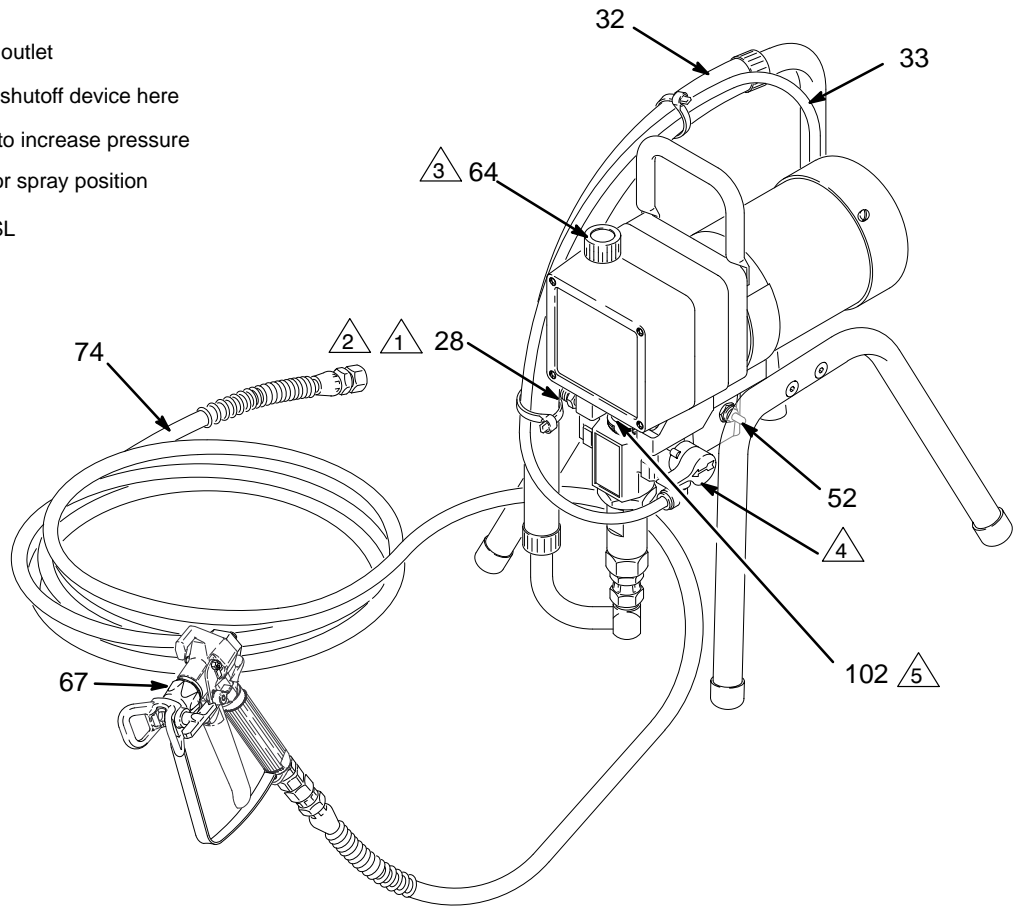

**Fig. 8**
The tip guard alerts you to the risk and helps prevent placing any part of the body close to the spray tip. The tip guard also adjusts the vertical or horizontal spray pattern. See Fig. 8. The tip guard holds a reversing spray tip. The tip is in the spraying position when the tip handle points forward. See Fig. 6.
- c. Adjust the direction of the spray pattern. See Fig. 8. Engage the gun safety latch. Loosen the retaining nut (A). Position the tip guard for a horizontal or vertical pattern. Hold the tip guard in place and tighten the retaining nut.